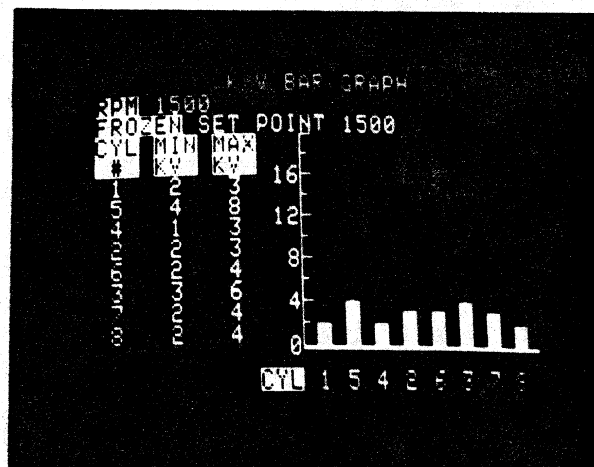

Fig. 12-4
1. While in a live screen, press RPM SET POINT. RPM SET POINT will appear in upper middle portion of screen (Fig. 12-4).